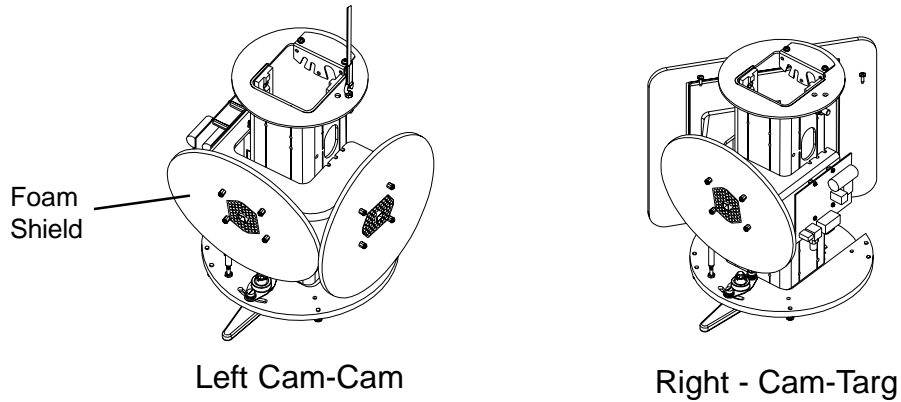

Figure 15
1. The left camera assembly is referred to as the "Cam-cam" while the right side is referred to as the "Cam-Targ". Camera assemblies are shipped with camera and Pod Car together and un-assembled for shipping protection. The camera assemblies are installed onto the Pod Car after all support tower assembly and transport work is completed. This assures that the camera will be out of harms way until required for setup. See Figure 15.